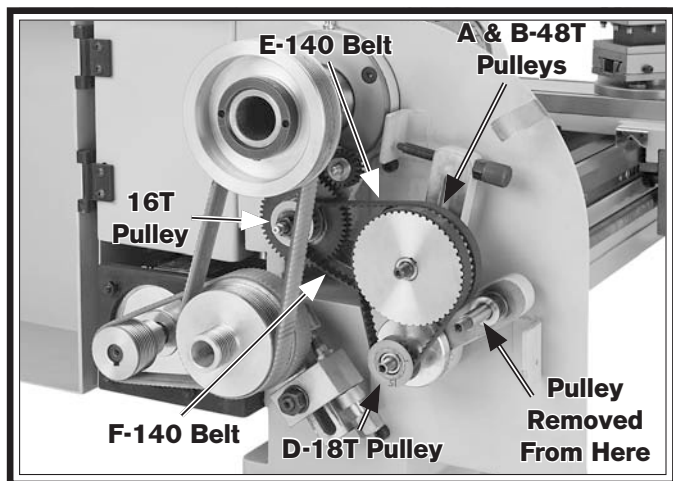

Figure 62. Threading timing belt and pulley identification.
- b. Remove the pulley and bushing from the **A–B** pulley shaft (see **Figure 62**).